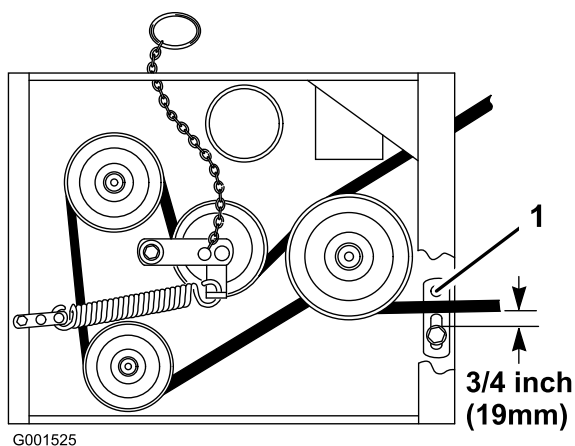

Figure 56
- Check the belt guide under the engine frame for proper adjustment (Figure 56).
Note: The distance between the belt guide and the mower belt should be $\frac{3}{4}$ inch (19 mm) when you engage the mower belt (Figure 56). Adjust the mower belt as necessary. The disengaged belt should not drag or fall off the pulley when the guides and belt tension are properly adjusted.